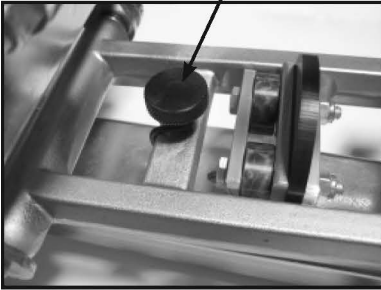
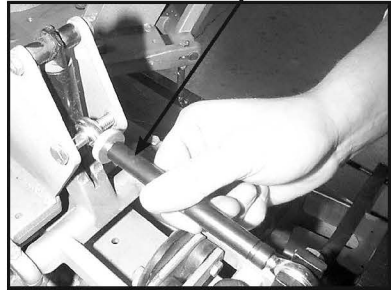

Fig. 19
Fig. 20
7. Lower your screen all the way down to the shirt board. You may have to use the **off contact adjustor** (Fig. 19) and your **screen leveler** (Fig. 20) to achieve front to rear "contact" with the shirt board. Now slightly loosen the ratchet handles. You should be able to notice the movement of the screen after adjusting the three adjustment nuts. (Fig. 14)